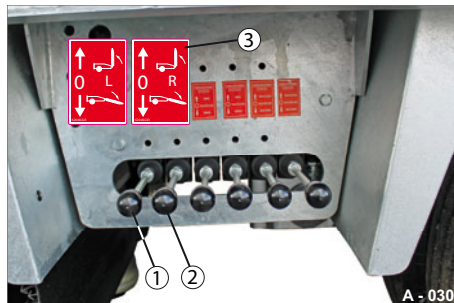

Fig. 31 Operating point
- Press the lever (Fig. 31/1 & Fig. 31/2) upwards or downwards in order to approach the desired position of the ramps.
- ▶ Press the respective lever downwards (see Fig. 31).
- ▶ Press the respective lever upwards (see Fig. 31).